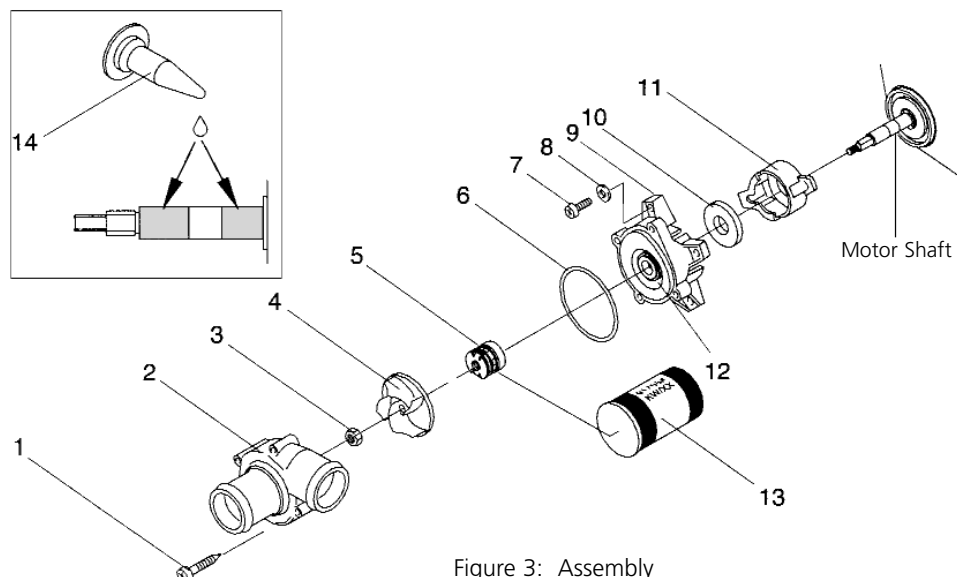

Figure 3: Assembly
Assembly (See Figure 3)
2. Slide the splash guard (item 11) and the washer (item 10) to the limit stop on the motor shaft.
3. Cut the top of the lubricating oil bottle open. Cover the motor shaft completely with a film of lubricating oil, while the shaft is in a horizontal position, as shown in figure 3.
Legend for Figure 3